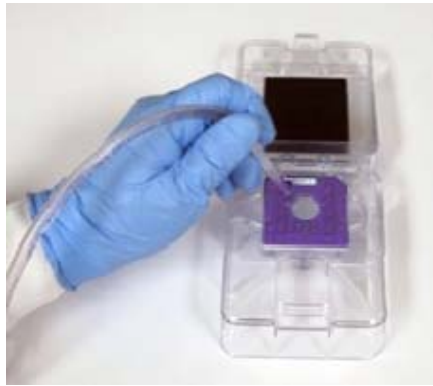

Figure 2. Using a vacuum to aspirate the chip wells is more effective than using a pipette. See page 39 for more details.
- 2** Use a pipette tip attached to a vacuum line to thoroughly aspirate all fluid from the chip wells (see Figure 2). For more details on how to set up a vacuum line see page 39.